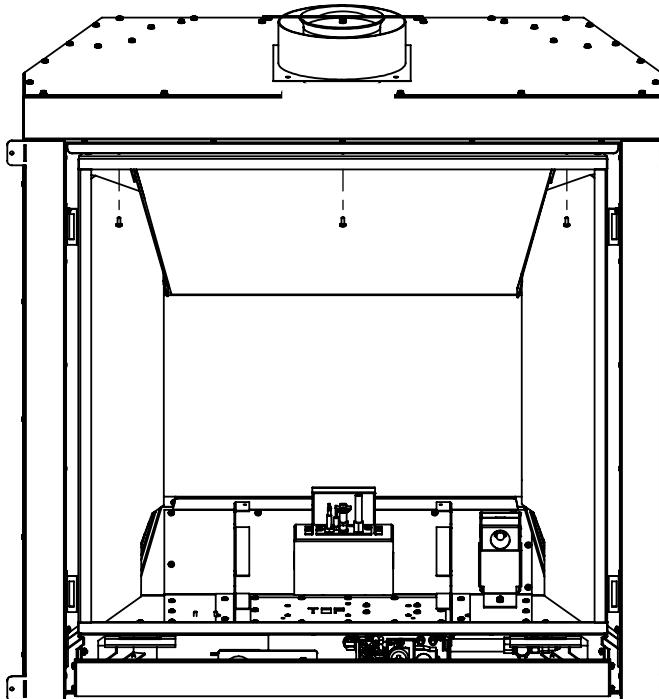
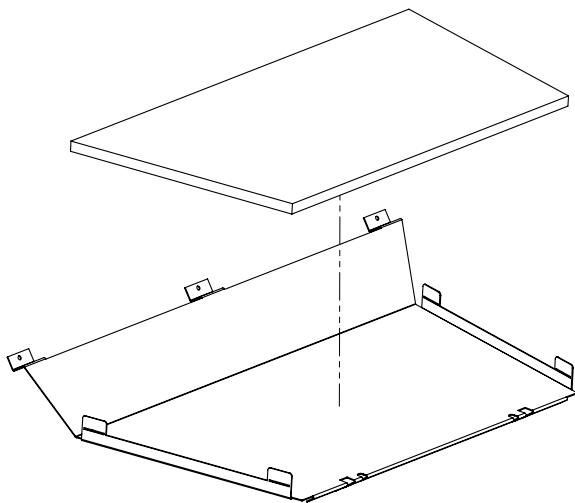

Figure 1. Firebox liner preparation
Figure 2. Exhaust Baffle Retainer Tabs
**Step 1: Be sure the fireplace is cool.** Remove the safety screen, door, log set (if installed), log grate, burner tube, and upper and lower air diverters. If unsure, instructions for removing these parts can be found in the MAINTENANCE AND SERVICE section of your Q3 Owner's Manual. Once all required components are removed, your appliance should resemble Figure 1.
**Step 2: The panels are delicate so please handle with care.** Use a T20 screwdriver to remove the 3 screws holding up the Exhaust Baffle (See Figure 1). Remove the Baffle followed by the rear and side brick panels. Use a pair of pliers or your fingers to unbend the retainer tabs that secure the brick liner to the baffle and remove the liner (Figure 2).